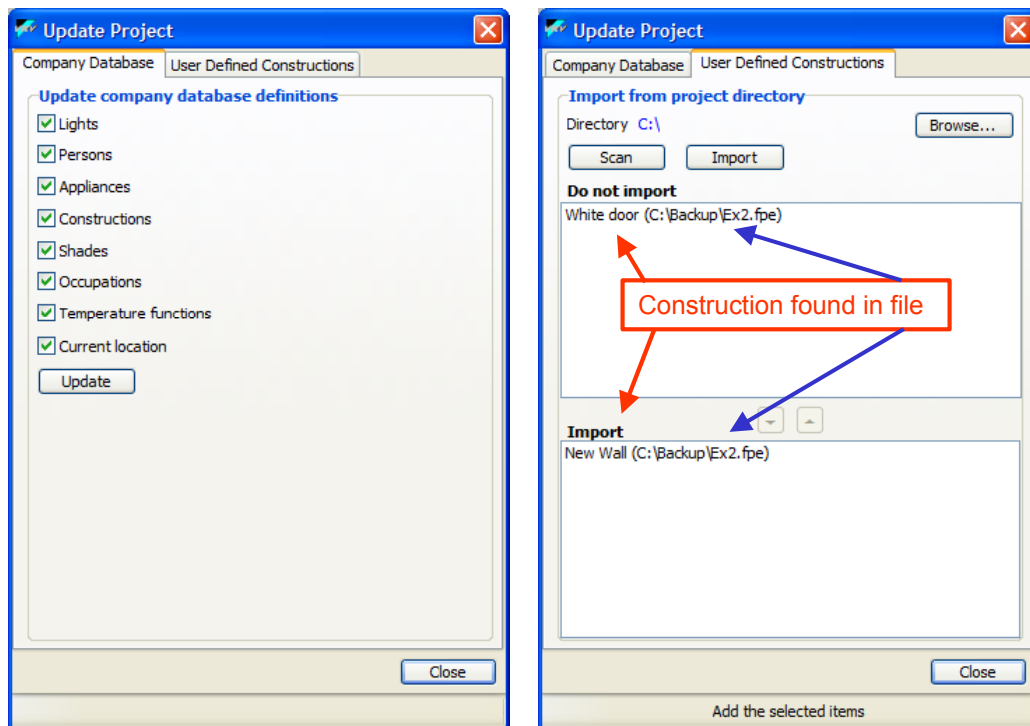

Figure 188: Updating project data from different sources
The "**Update Definitions**" command in the Database menu brings up a window as shown in Figure 188. It contains two tabs:
1. The "**Company Database**" tab (see Figure 188 at the left) allows copying the selected data from the company database in the VRVPro executable program into your project. From then on, you can use those new definitions. Note, for example, that loading the "**current location**" resets all parameters used to produce a climate file (see section 5.8) to the original data.